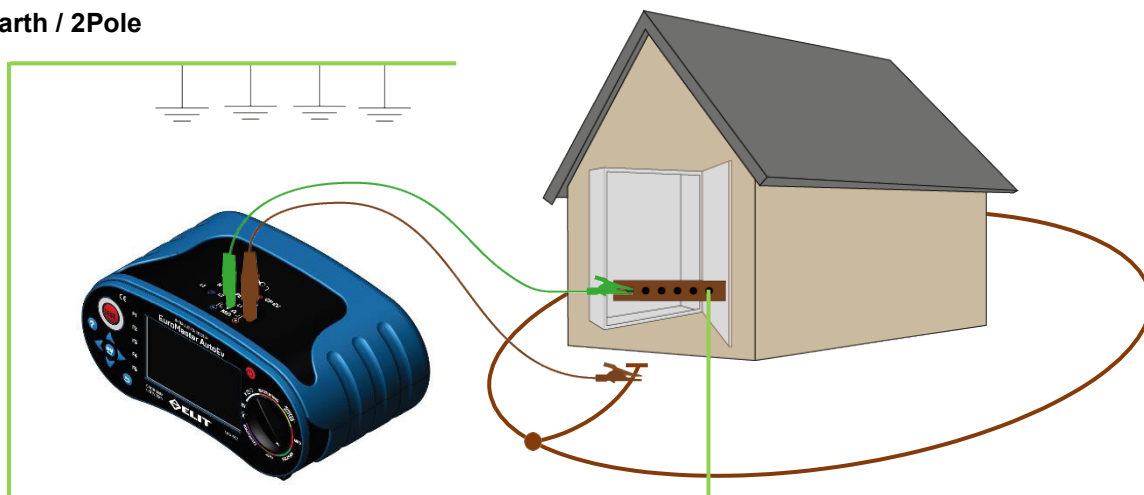

Figure 6.8.1 Earth Resistor 2Pole Connection.
- IV. Connect the L-PE terminal and measurement position as shown in Figure 6.8.1.